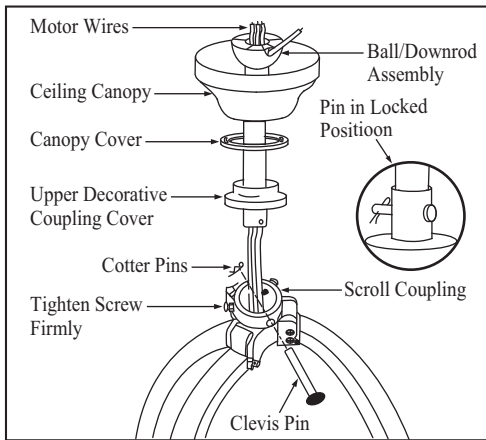

Figure 6
3. Remove the clevis pin, cotter pin and set screws from the scroll coupling. (Figure 6)
4. Route the wires and safety cable exiting from the decorative scroll through the upper coupling cover, canopy cover, canopy and then through the ball/downrod assembly. (Figure 6)
5. Align the holes at the bottom of the downrod with the holes in the scroll coupling on top of the decorative scroll (Figure 6). Carefully insert the clevis pin through the holes in the collar and downrod. Be careful not to jam the clevis pin against the wiring inside the downrod. Insert the cotter pin through the hole near the end of the clevis pin until it snaps into its locked position, as noted in the circle inset of Fig. 6.